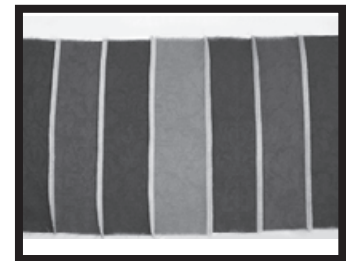

Fig. 2
6. Now you have two larger pieces for the outside base of the tote bag. Press seams outward. **(Fig. 2)**